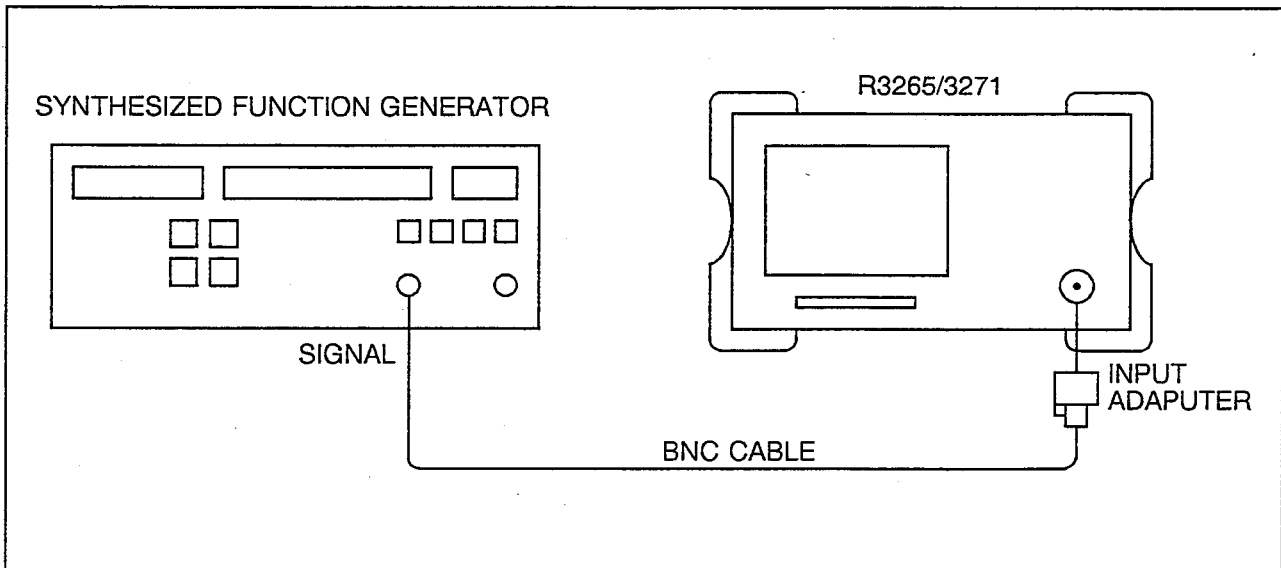

Figure 4-18 Sweep Time Accuracy Test Setup
- (1) Connect the equipment as shown in Figure 4-18 using the BNC cable from the HP3325A SIGNAL OUT.